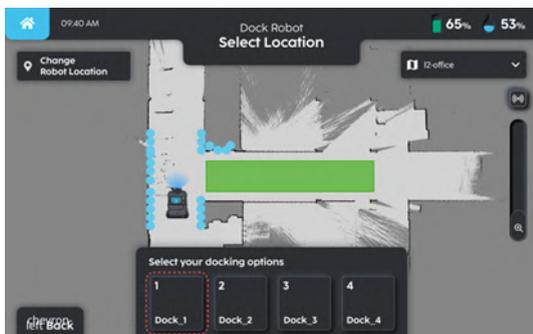

FIGURE 12-6
2. Once the machine is localised, select the docking station for the machine to dock to (**Fig. 12-6**).